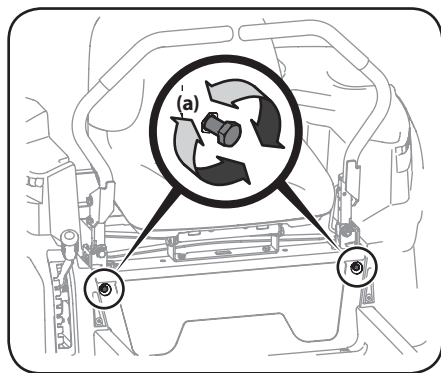

Figure 4-12
2. Locate the drive control lever stop adjustment bolts (a) on the front of the seat frame. See Figure 4-12.